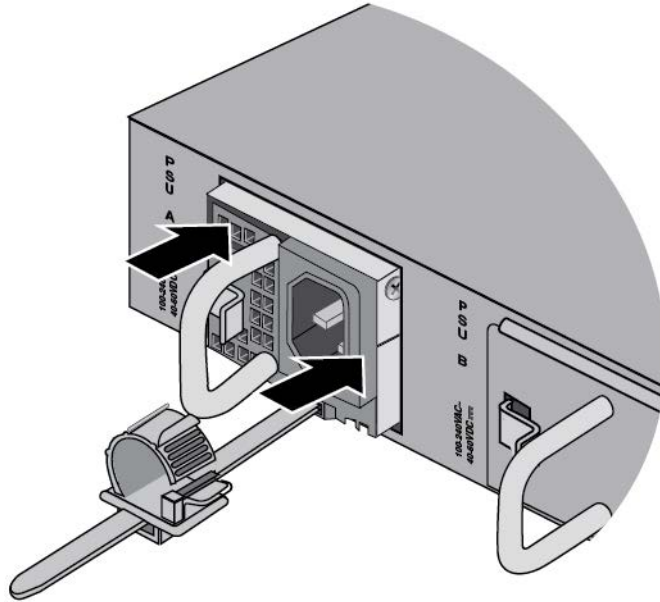

Figure 59. Seating the Power Supply on the Internal Connector
4. When the power supply makes contact with the connector inside the switch, gently press on its faceplate to seat it on the connector. Refer to Figure 59 on page 131.